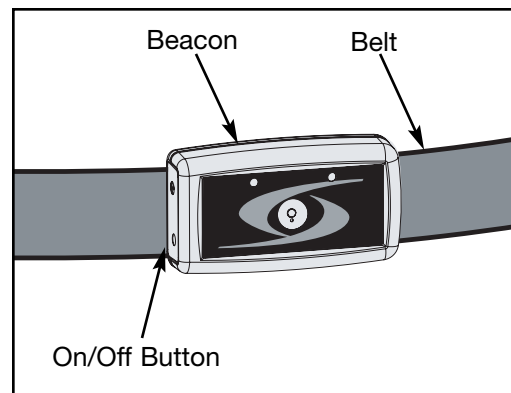

Figure 1
7. Locate the on/off button. Fasten the belt around your waist with the on/off button located on the right. Adjust the strap as tight as possible without affecting the user’s comfort or breathing. See Figure 1.